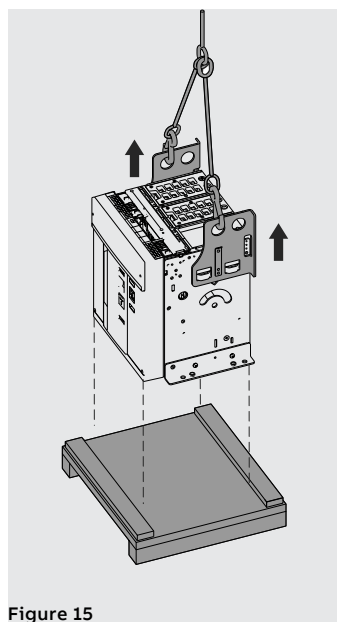
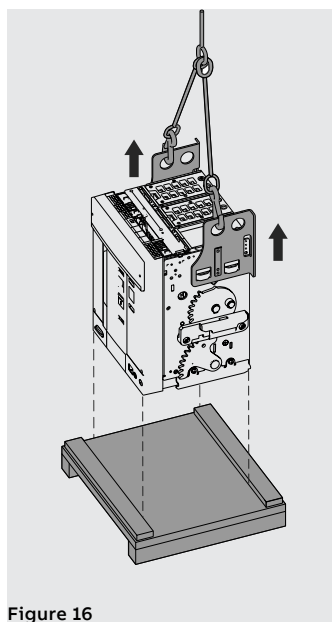

Figure 15
Figure 16
- Raise the circuit-breaker from the base of the packaging with the aid of lifting plates, to be purchased separately. See Figure 15 and Figure 16.